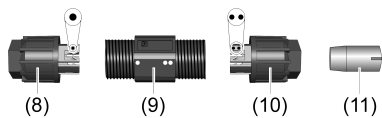

Figure 6: Connection set 50909900
i To seal the output cable, use a sealing plug (11) and union nut (10) with two-point marking from the connection set (Figure 6).
i To connect the supply line, use an insulator (9) and union nut (8) with one-point marking from the connection set (Figure 6).